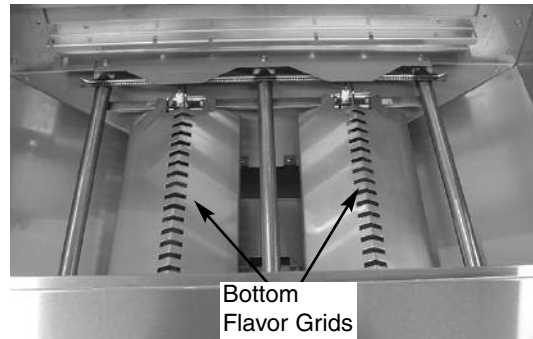

Fig 2
2. Remove bottom flavor grids (See Fig. 2)